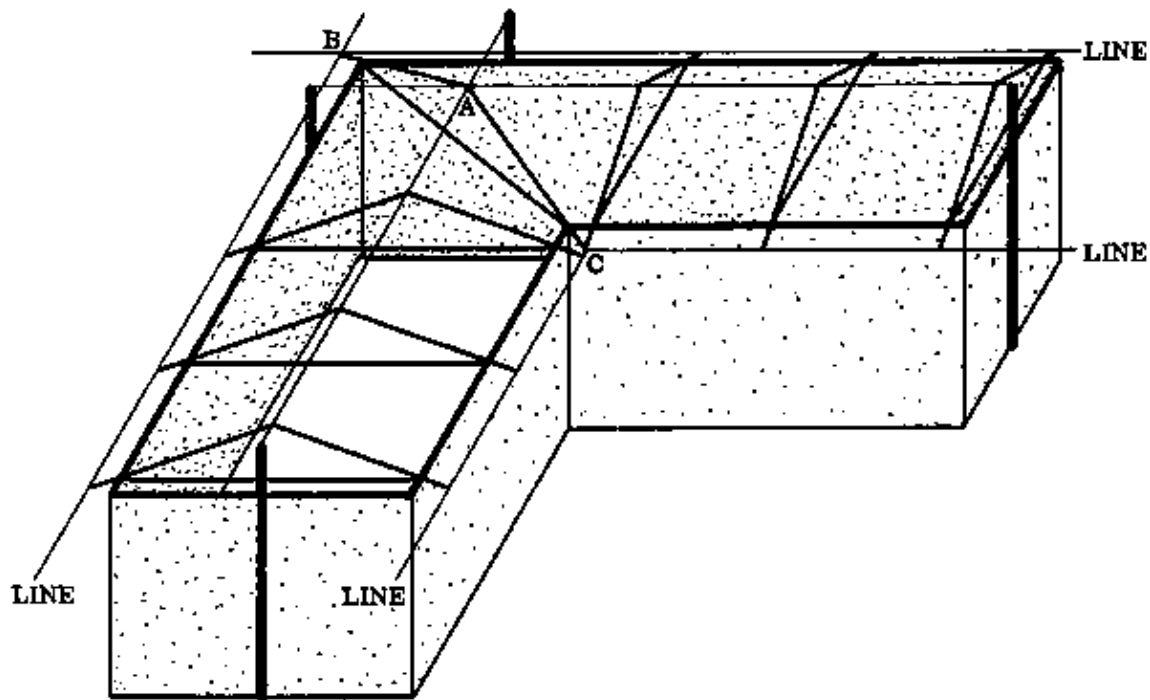

Fig. 2
– Erect the ordinary trusses according to the lines in their correct places (Fig. 2). Refer to the section on erecting a gable roof, page 191.
- Fix lines parallel to the walls along the tops of these purlins, at eave height on both sides of the roof (Fig. 2).
- Set the ridge lines higher, by the amount of the purlin thickness (Fig. 2).
- Now you will have three points where the lines cross. These are: point A at the ridge; point B at eave height, and point C on the other side at eave height (Fig. 2). These points mark the outer surfaces of the hip and valley truss.